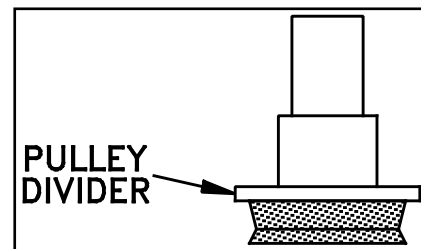

Figure 15
5. Place the pulley divider on the pulley. (Figure 15) **NOTE:** The pulley divider is NOT square. It is slightly wider one direction than the other. During use, the pulley divider must be oriented long side